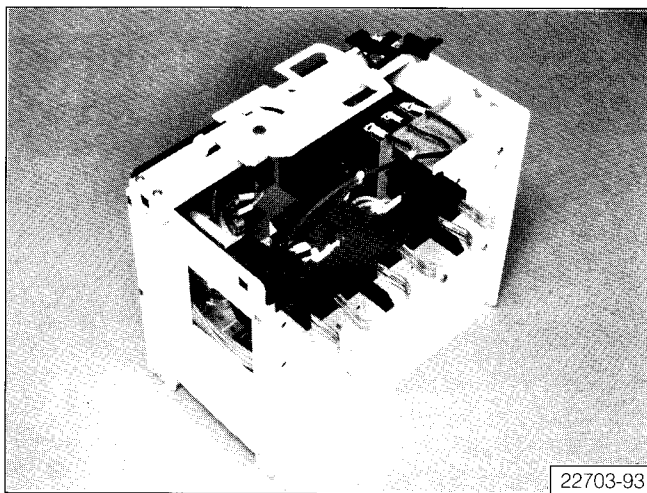

Figure 28: The Stab Assembly
5. **Stab Fingers: (Figure 28)** Inspect stab fingers as instructed under Stab Fingers Section and Vertical Bus Section and replace if necessary.